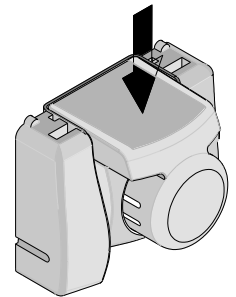

Figure 7B
6. Press the red insert down as far as it will go as shown in Figure 7B.
7. Holding onto the lower part of the locator with your thumb and index finger, insert the locators top hooks (2) into the hand tool top slots.